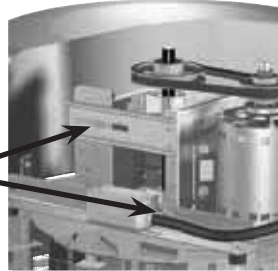

Figure 17
7. Belt tension can be adjusted by loosening four fasteners on the drive frame, see *Figure 17*. The motor plate slides on the slotted adjusting arms and drive frame angles in the same manner.